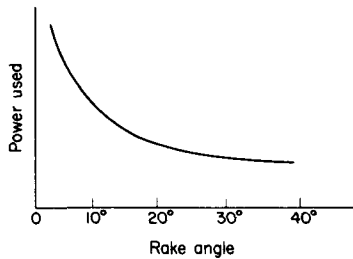
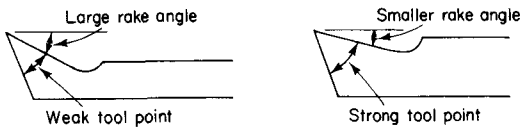

Fig. 4.54 Rake angle
Fig. 4.55 The effect of rake angle on the strength of the tool point
**Power used in cutting.** When cutting a ductile metal like mild steel it is the rake angle on the tool which determines the amount of power which will be used. Fig. 4.54 shows the effect of rake angle on power. It will be noticed that a large rake angle reduces the power required. However, by increasing the rake angle too much the tool point is weakened and a compromise is used (Fig. 4.55).